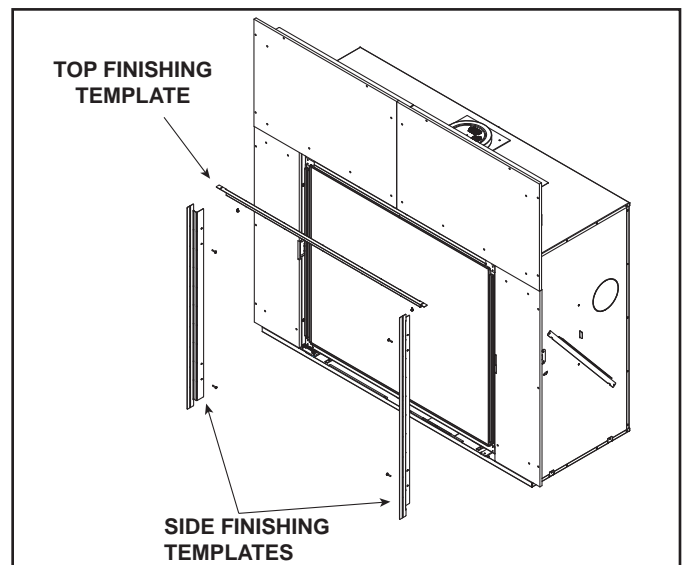

Figure 13.3 Top and Side Finishing Template Locations
3. Locate the four threaded inserts on the inside edge of the fireplace and secure the side templates with the Phillips screws provided. See Figure 13.3.